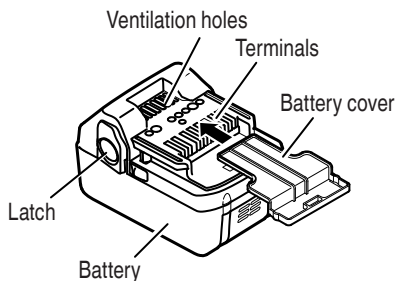

Fig. 2
- **Either install the battery in the power tool or store by securely pressing into the battery cover until the ventilation holes are concealed to prevent short-circuits (See Fig. 2).**